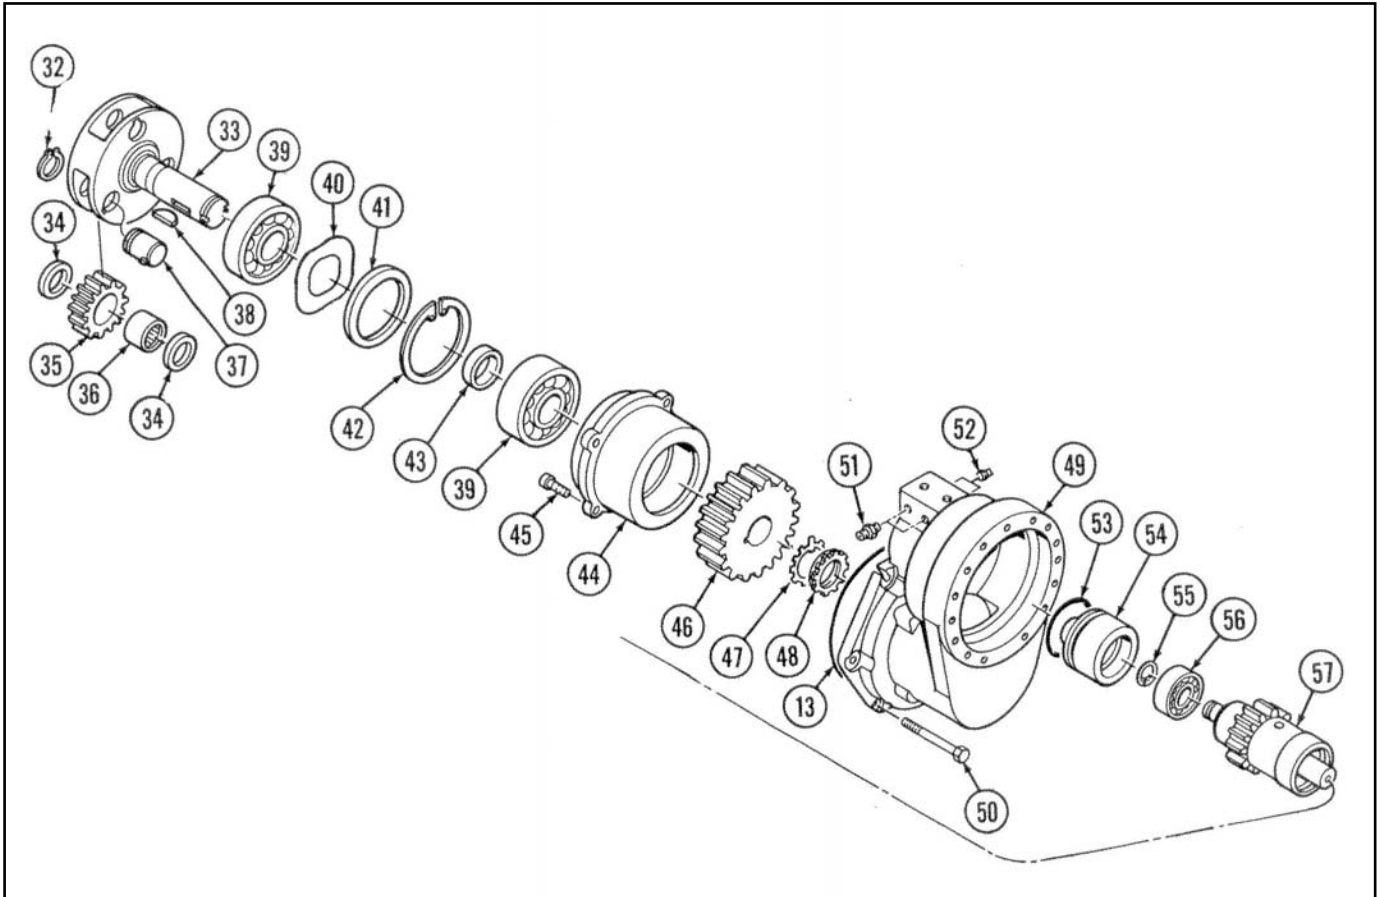

Figure 4. Gearbox Housing Assembly
The gearbox housing assembly, refer to figures 4, consist of a planet gear carrier shaft (32), three planet gears (34), needle bearings (35), spacers (33), and bearing pins (36).